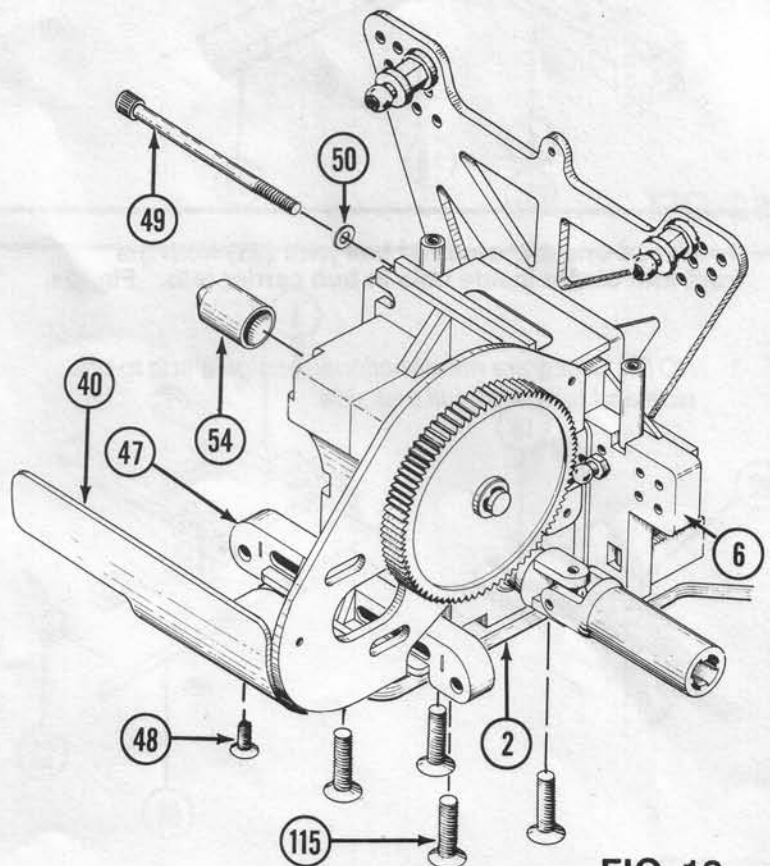

FIG. 18
34. While holding rear pivot support (47) in place under rear of gearbox, slide gearbox into place in rear bulkhead (6). Fig. 18.
35. Secure gearbox and rear pivot support (47) to chassis (2) using four 8-32 x $1/2"$ steel flathead screws (115). Fig. 18.
36. Secure motorplate (40) to chassis (2) using a 4-40 x $1/4"$ flathead screws (48). Fig. 18.
37. Secure gearbox to rear bulkhead (6) using a 4-40 x $1\ 3/4"$ socket head screw (49) with a #4 washer (50) under the head. Fig. 18.
* NOTE: The 4-40 nylon nut (51) and the 4-40 x $1/8"$ button head screw (52) will be used later to screw the gear cover (107).
38. Push dust cover (54) over differential adjustment hole in gearbox. Fig. 18.
* NOTE: Motor screws (111) are supplied, put them aside until its time to mount your motor.